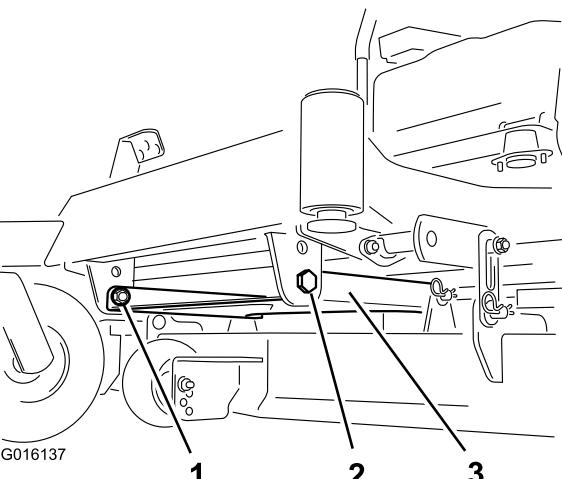

Figure 1
- For machines with a mower housing pan, remove the 2 nuts and bolts that secure the front of the mower housing pan to the machine (Figure 1). Ensure the pan is installed once the weights are secured.
- 4. For machines with a mower housing pan, install the mower housing pan to the machine (Figure 1).